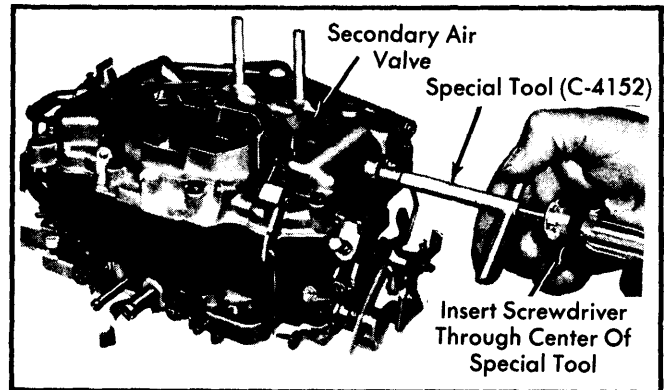

Fig. 5 Adjusting Secondary Air Valve Spring Tension
- 1) Loosen air valve lock plug. Turn air valve adjustment plug clockwise. This allows air valve to move to wide open position. See Fig. 5.